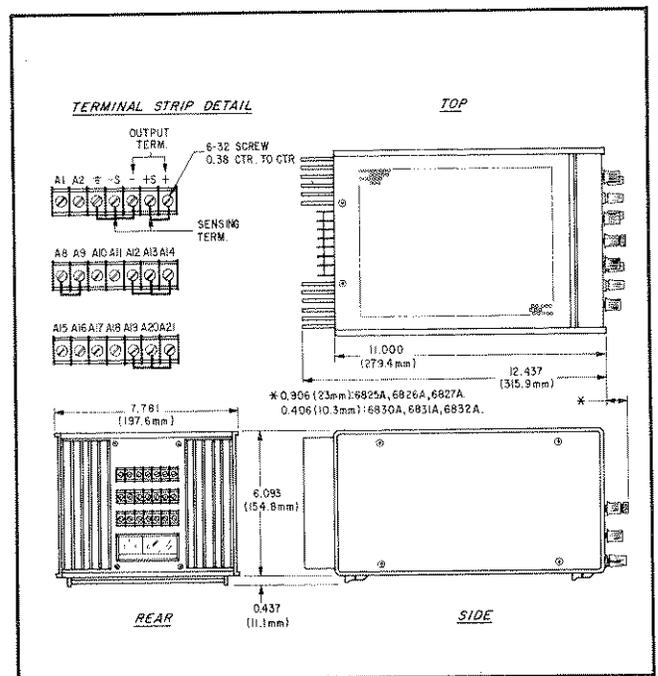

Figure 2-1. Outline Diagram
<p>Input Power: Model 6826A: 104-127/208-254Vac (switchable), 48-63Hz, 1.0A, 130W Model 6827A: 104-127/208-254Vac (switchable), 48-63Hz, 1.2A, 150W</p> <p>Meters: Individual voltage and current meters. DC accuracy is 3% of full scale. AC accuracy is 5% full scale with sinusoidal, 100Hz input.</p> <p>Meter Ranges (DC): Model 6826A: ±6V, ±60V ±0.12A, ±1.2A Model 6827A: ±12V, ±120V ±0.06A, ±0.6A</p> <p>Meter Ranges (AC): Model 6826A: 4V (uncal), 40V rms 0.08A rms, 0.8A rms Model 6827A: 8V (uncal), 80V rms 0.04A rms, 0.4A rms</p> <p>Temperature Ratings: Operating: 0 to 55°C. Storage: -40 to +75°C.</p> <p>Cooling: Convection cooling is employed. The supplies have no moving parts.</p> <p>Dimensions: See outline diagram, Figure 2-1.</p> <p>Weight: 18 lbs. (8.2 kg.) net, 21 lbs. (9.5 kg.) shipping.</p>	<p>Model 6827A: X1 Range: -10V to +10V, 0 to 0.5A X10 Range: -100V to +100V, 0 to 0.5A</p> <p>Load Effect (Load Regulation): Voltage load effect is given for a load current change equal to the current rating of the supply. Current load effect is given for a load voltage change equal to the voltage rating of the supply.</p> <p>Model 6826A: Voltage (X1 Range): 0.01% + .5mV Voltage (X10 Range): 0.01% + 1mV Current: .01% + 250µA</p> <p>Load Effect (Load Regulation) Continued: Model 6827A: Voltage (X1 Range): .01% + .3mV Voltage (X10 Range): .01% + 1mV Current: .01% + 250µA</p> <p>Source Effect (Line Regulation): For a change in line voltage between 104 and 127Vac/208 and 254Vac at any output voltage and current within rating.</p> <p>Model 6826A: Voltage (X1 Range): .01% + .5mV Voltage (X10 Range): .01% + 5mV Current: .01% + 250µA</p> <p>Model 6827A: Voltage (X1 Range): .01% + 1mV Voltage (X10 Range): .01% + 10mV Current: .01% + 250µA</p> <p>PARD (Ripple and Noise): Rms/p-p (20Hz to 20MHz) at any line voltage and under any load condition within rating.</p> <p>Model 6826A: Voltage (X1 Range): 2mV rms/10mV p-p Voltage (X10 Range): 6mV rms/35mV p-p Current: .8mA rms/5mA p-p</p> <p>Model 6827A: Voltage (X1 Range): 2.5mV rms/15mV p-p Voltage (X10 Range): 10mV rms/50mV p-p Current: .4mA rms/5mA p-p</p>
2-14 Figure 2-1 illustrates the outline shape and dimensions of Models 6826A and 6827A.